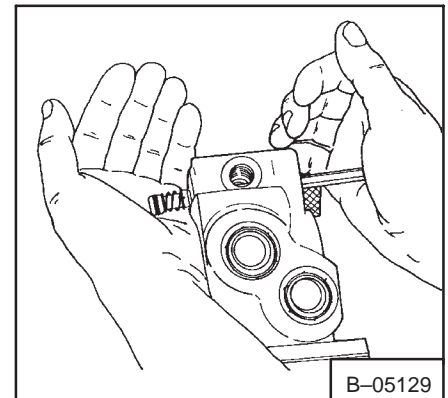

Fig. 3-40 Removing Shuttle Valve
8. Use a punch, remove the poppet, spring, O-ring dash pot and the plug and the shuttle (Fig. 3-40).